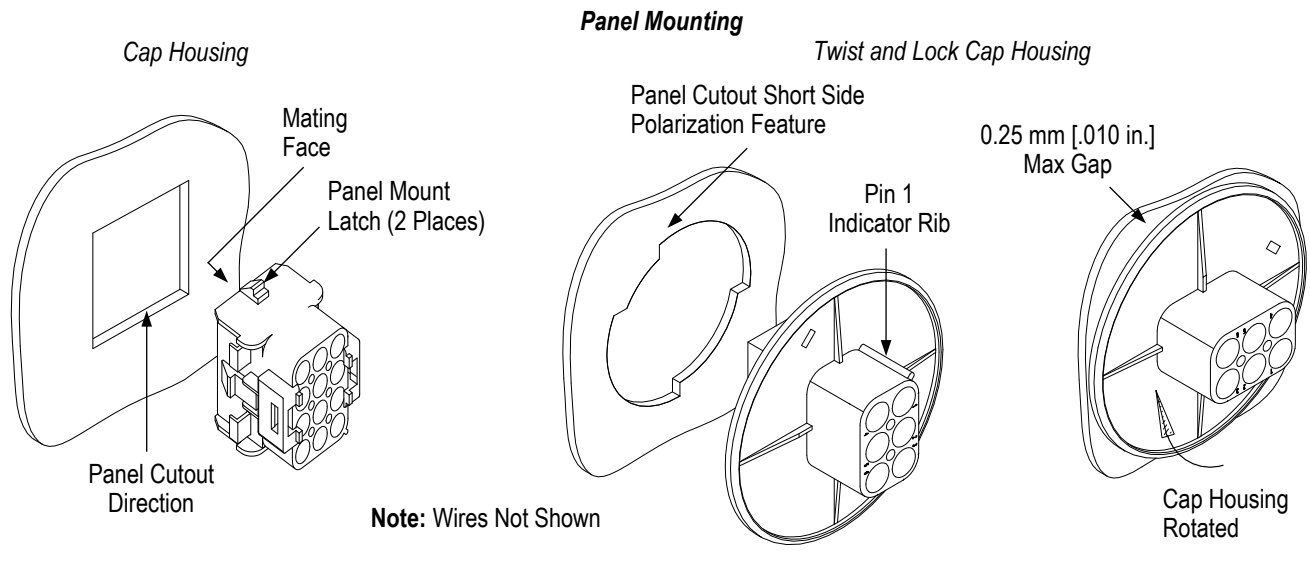

Figure 3
2. For the cap housing, insert the cap housing, mating face first, through the panel cutout in the same direction that the cutout was made until the flexible panel mounting latches snap in place. Refer to Figure 3.
For the Twist and Lock cap housing, align the pin 1 indicator rib with the short side polarization opening of the panel, and push the cap housing through the panel. Rotate the cap housing *clockwise* until it is firmly seated. In order to prevent foam leakage, a gap between the cap housing flange and the panel must be no more than the dimension given in Figure 3.